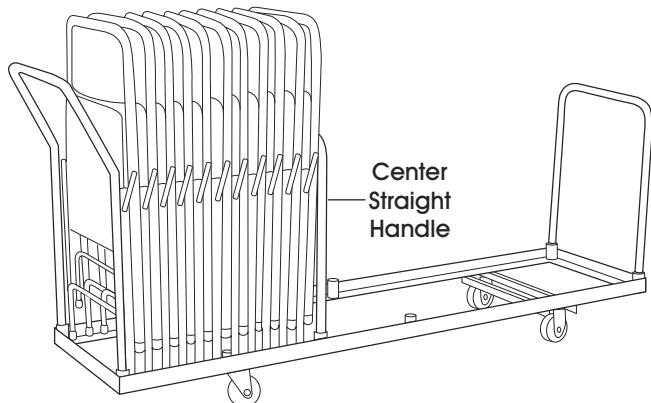

Figure 3
- If fewer than 14 chairs are stacked, start stacking chairs on the left end of the dolly. (See Figure 3)